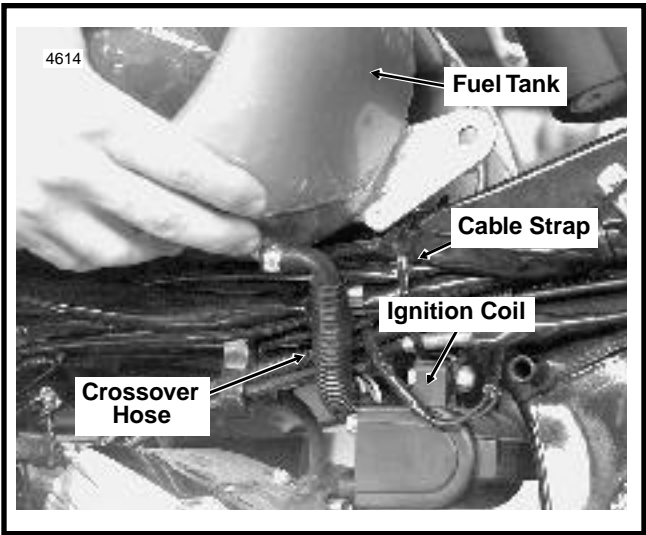

Figure 2. Move Fuel Tank Crossover Hose
- Raise the fuel tank approximately 2 inches. Unplug spark plug cables from ignition coil. Move the fuel tank crossover hose to the rear of the ignition coil, so that the tank can be raised an additional 2-3 inches (see Figure 2). Move fuel tank straight back and rest on frame backbone.
- Cut and discard old 14 inch cable strap around frame backbone, wire harness and wire bundle, if present. (See cable strap callout in Figures 2 and 8.)